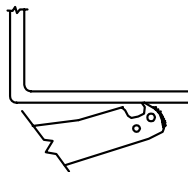

Figure 5A
- If it is preferred to lift the forklift at a point where a structural member will be cradled in the lift arm notch at the end of the lift arm (see Figure 5A).
- If no structural component on the forklift is present at the desired lifting point, weld a steel bar to the forklift to create a structural member (as in Figure 5A).